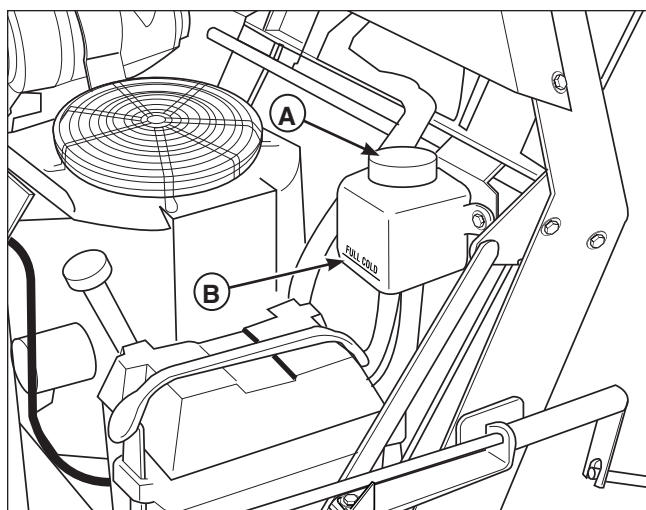

Figure 32. Oil Reservoirs
- Keep oil level in the reservoir (A, Figure 32) at the "FULL" line (B). Extra oil in the reservoir will not benefit the machine.
4. Run engine for 5 minutes. Watch the oil level in the reservoirs. Add oil to the "FULL" line (B, Figure 32) as necessary.